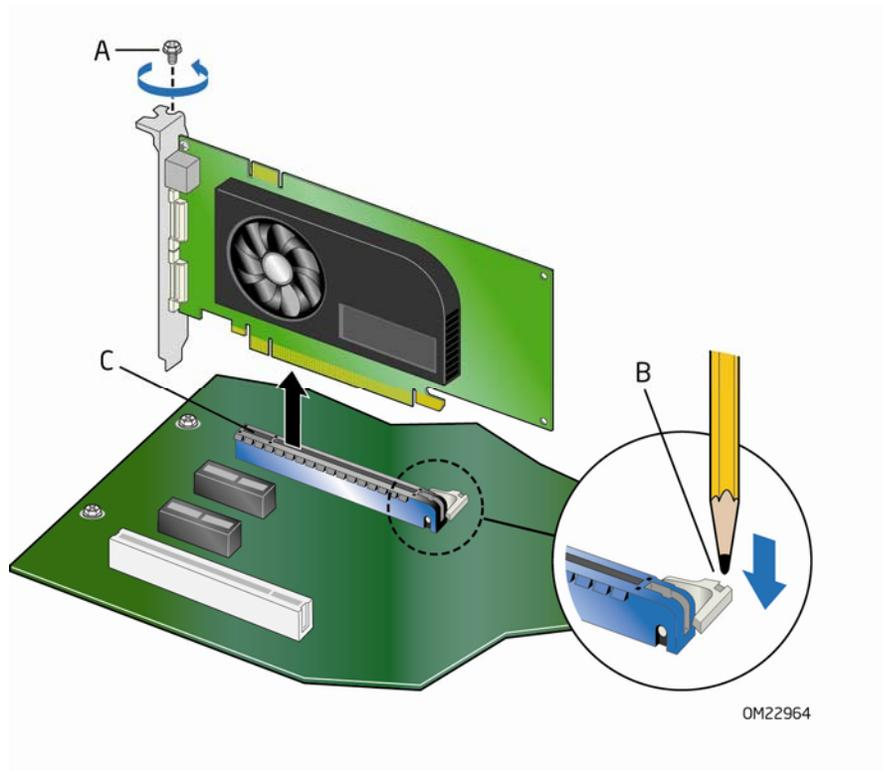

Figure 17. Removing a PCI Express x16 Graphics Card
3. Remove the screw (Figure 17, A) that secures the card's metal bracket to the chassis back panel.
4. Push the card ejector lever down using the tip of a pencil or similar tool (Figure 17, B) in the notch. This will release the card from the connector (C).